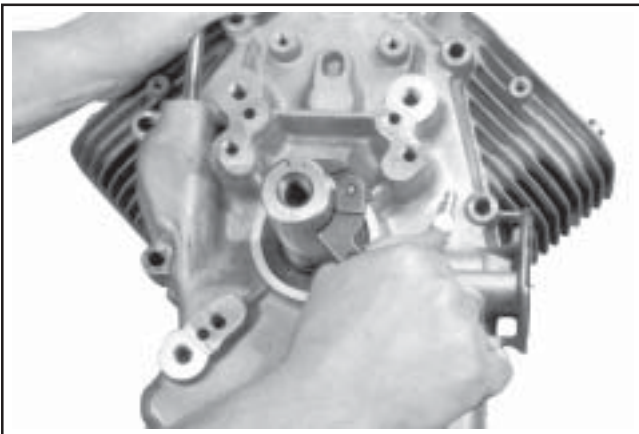

Figure 11-20. Using Spanner Wrench to Turn Crankshaft.
5. Install the closure plate to the crankcase. Carefully seat the camshaft and the crankshaft into their mating bearings. Rotate the crankshaft slightly to help engage the oil pump and governor gear meshes. See Figure 11-20.